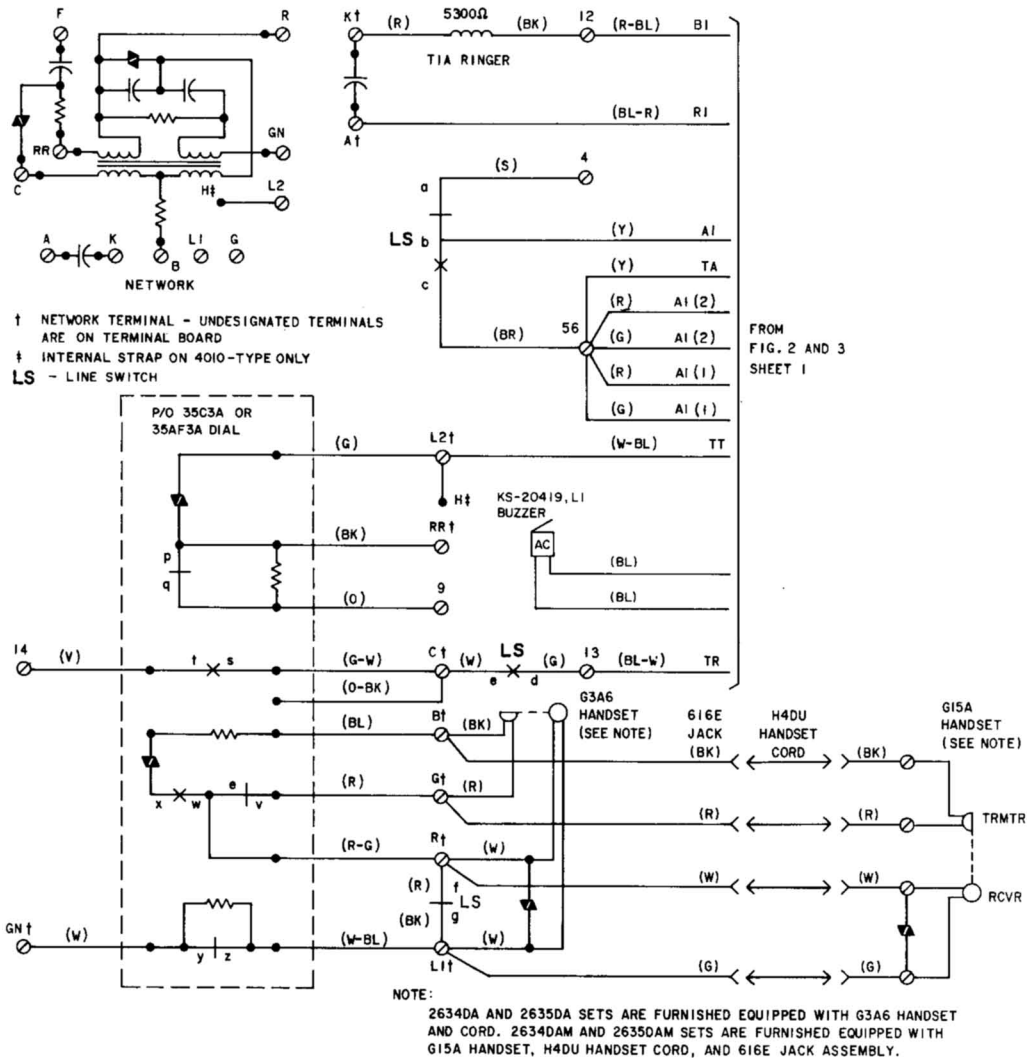

Fig. 1—2634DA or DAM and 2635DA or DAM Telephone Set Connections
**1.03** Nonmodular 2634DA and 2635DA telephone sets are furnished from the factory equipped with a G3-type handset and cord. Modular 2634DAM and 2635DAM telephone sets are equipped with a G15A handset, H4DU handset cord, and 616E jack assembly (Fig. 1).